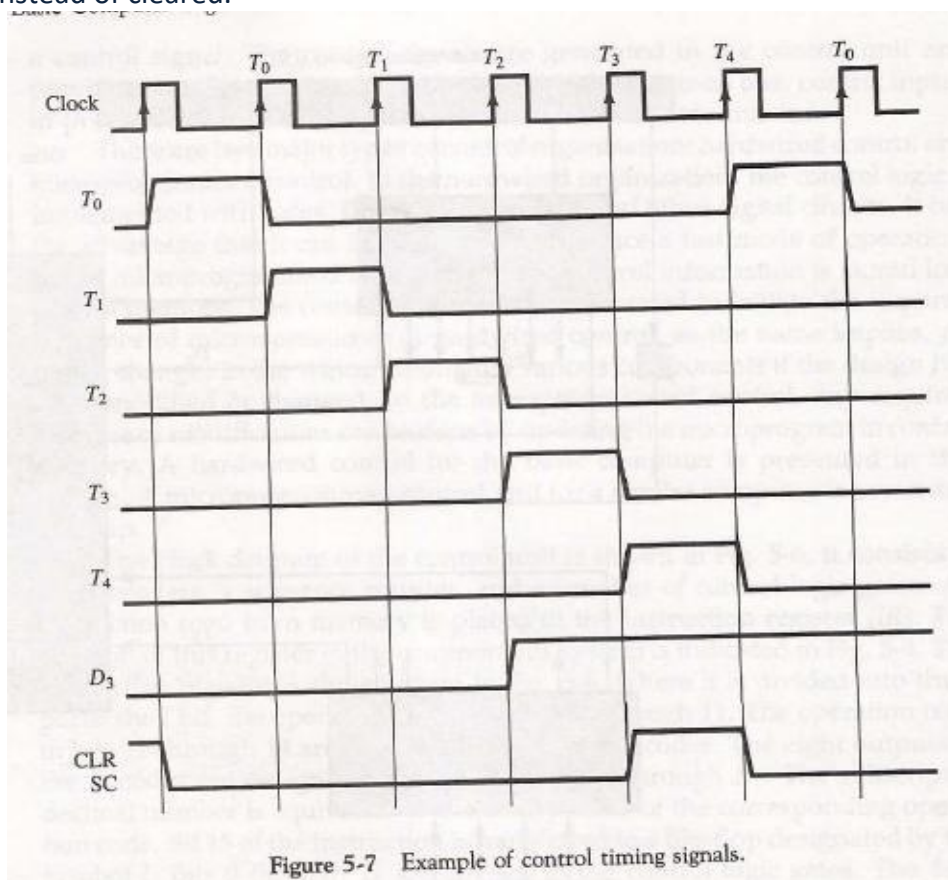

Figure 5-7 Example of control timing signals.
- The timing diagram of Fig. 5-7 shows the time relationship of the control signals.
- The last three waveforms in Fig.5-7 show how SC is cleared when $D_3T_4 = 1$.